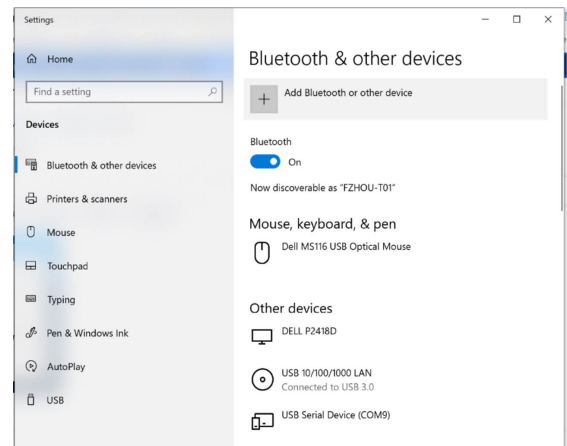

Figure 12. Add Bluetooth Device from Settings Window
2. The **Settings** window opens (see **Figure 12**). Under **Bluetooth & other devices**, click **Add Bluetooth or other device**.